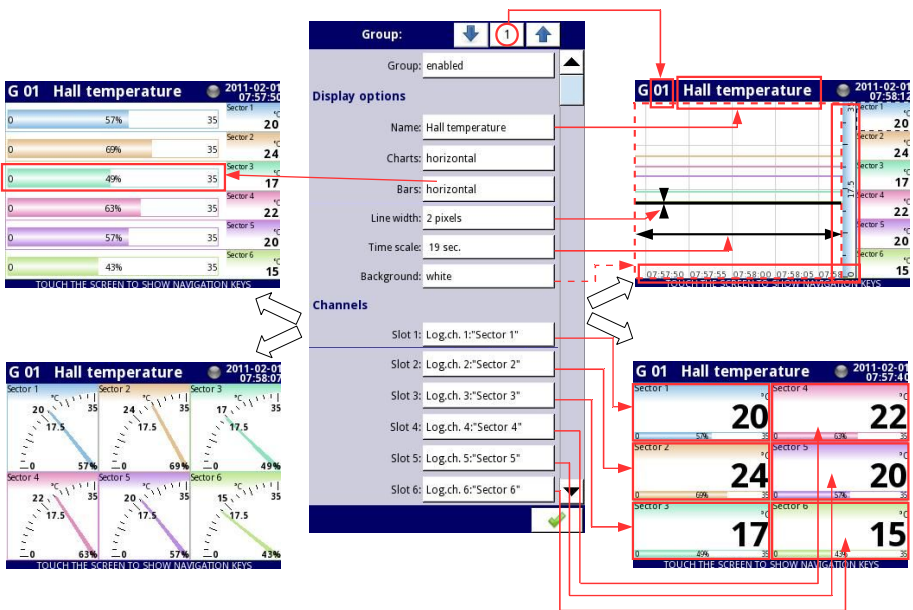
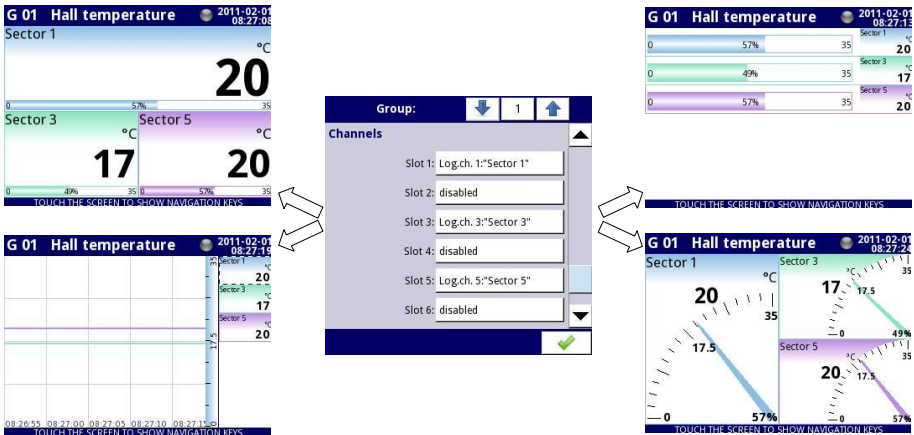

Fig. 7.118. Sample of **Group** parameters settings - all Slot set to **Logical channel**
Fig. 7.120. Sample of **Group** parameters settings - Slots set to **Logical channel** and set to **disabled**
- **Slot 1÷6** - in each slot user can select a option (see Fig. 7.118÷Fig. 7.120):